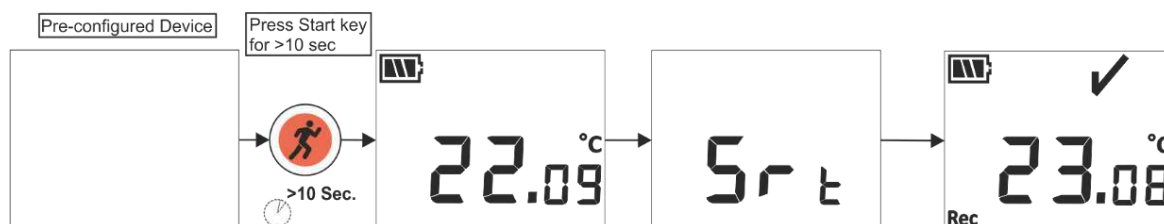

Figure 7 Start batch manually
2. User can manually start the device after batch configuration, if required by pressing “**Start**” key for about 10 seconds as shown in figure 7.